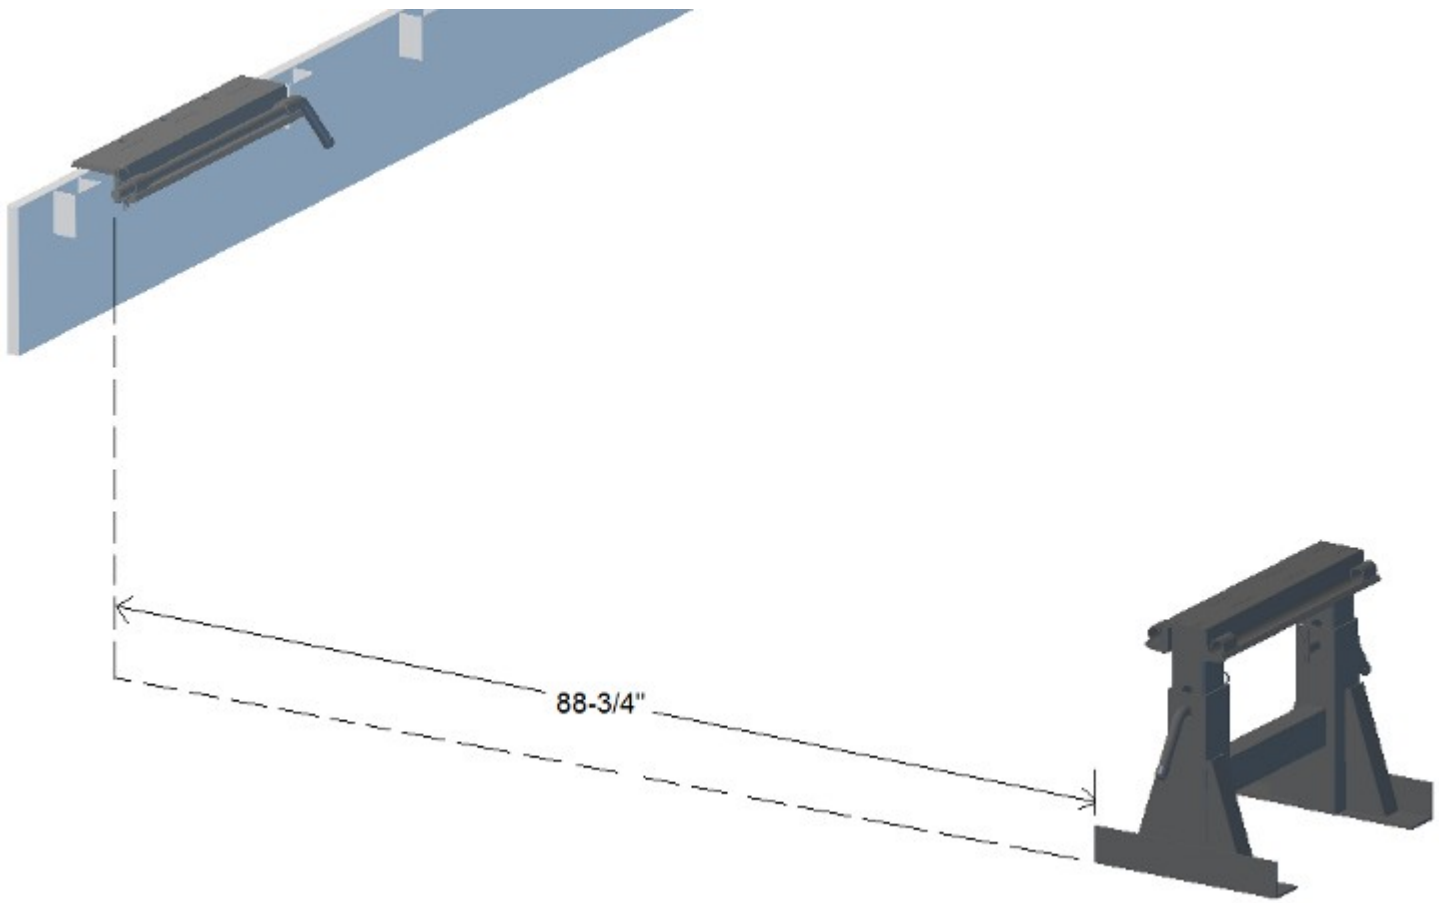

Figure 9 – Illustrative view of Placement for Ramp Stands, relative to the trailer's back rub rail edge
- 3) Mount the trailer receivers onto the trailer's back rail, line up the holes, and insert a Grade 5 bolt into each of the six (6) holes. Secure each bolt w/ a matching nut and lock washer. Torque each bolt w/ nut and lock washer to 60 lbs/ft. If the trailer floor is higher than the back rail, either cut off the receiver at the 2" etch line or shim under the receiver along the back rail.
- 4) Using the tape measure, traverse the tape along the ground approximately eighty-eight & 3/4 inches (88-3/4") from the vertical boundary of the trailer's back rub rail edge (i.e. exterior face of rear stake pockets) and set ramp stands on the ground, the near end of each ramp's "foot" flush on the distance mark, as shown in Fig. 9:
Note that Figure 9 roughly depicts the back end of a trailer with a 40" nominal deck height – the exact lateral placement of the stands may vary significantly from 88-3/4", depending on the magnitude of the height differential.